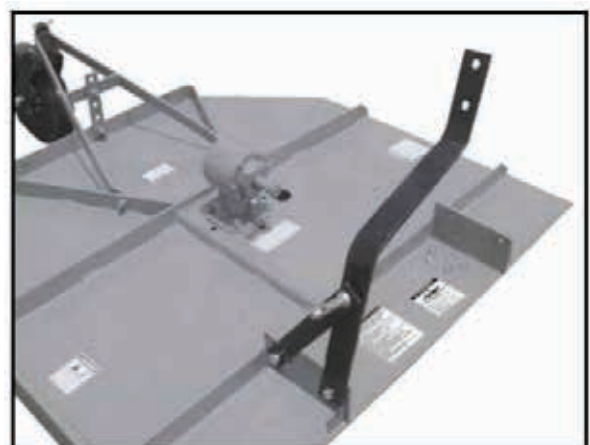

Figure 3
Install the right lift arm and lift arm support strap using short bolts (2) and lift pin (1). (See Figure 3).